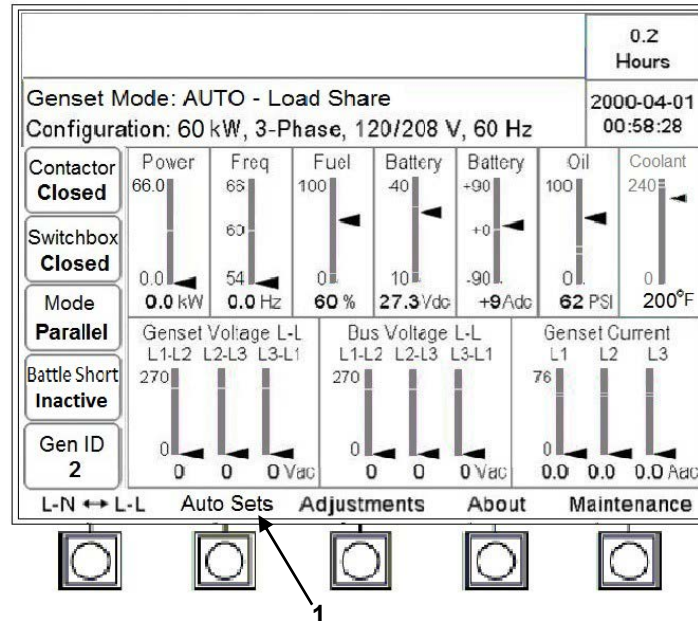

Figure 4-5. Auto Mode Main Screen
- Press [Auto Sets] (figure 4-5, item 1).
- a. Press [Auto Sets] (figure 4-5, item 1).
- a. Press [Auto Sets] (figure 4-5, item 1)